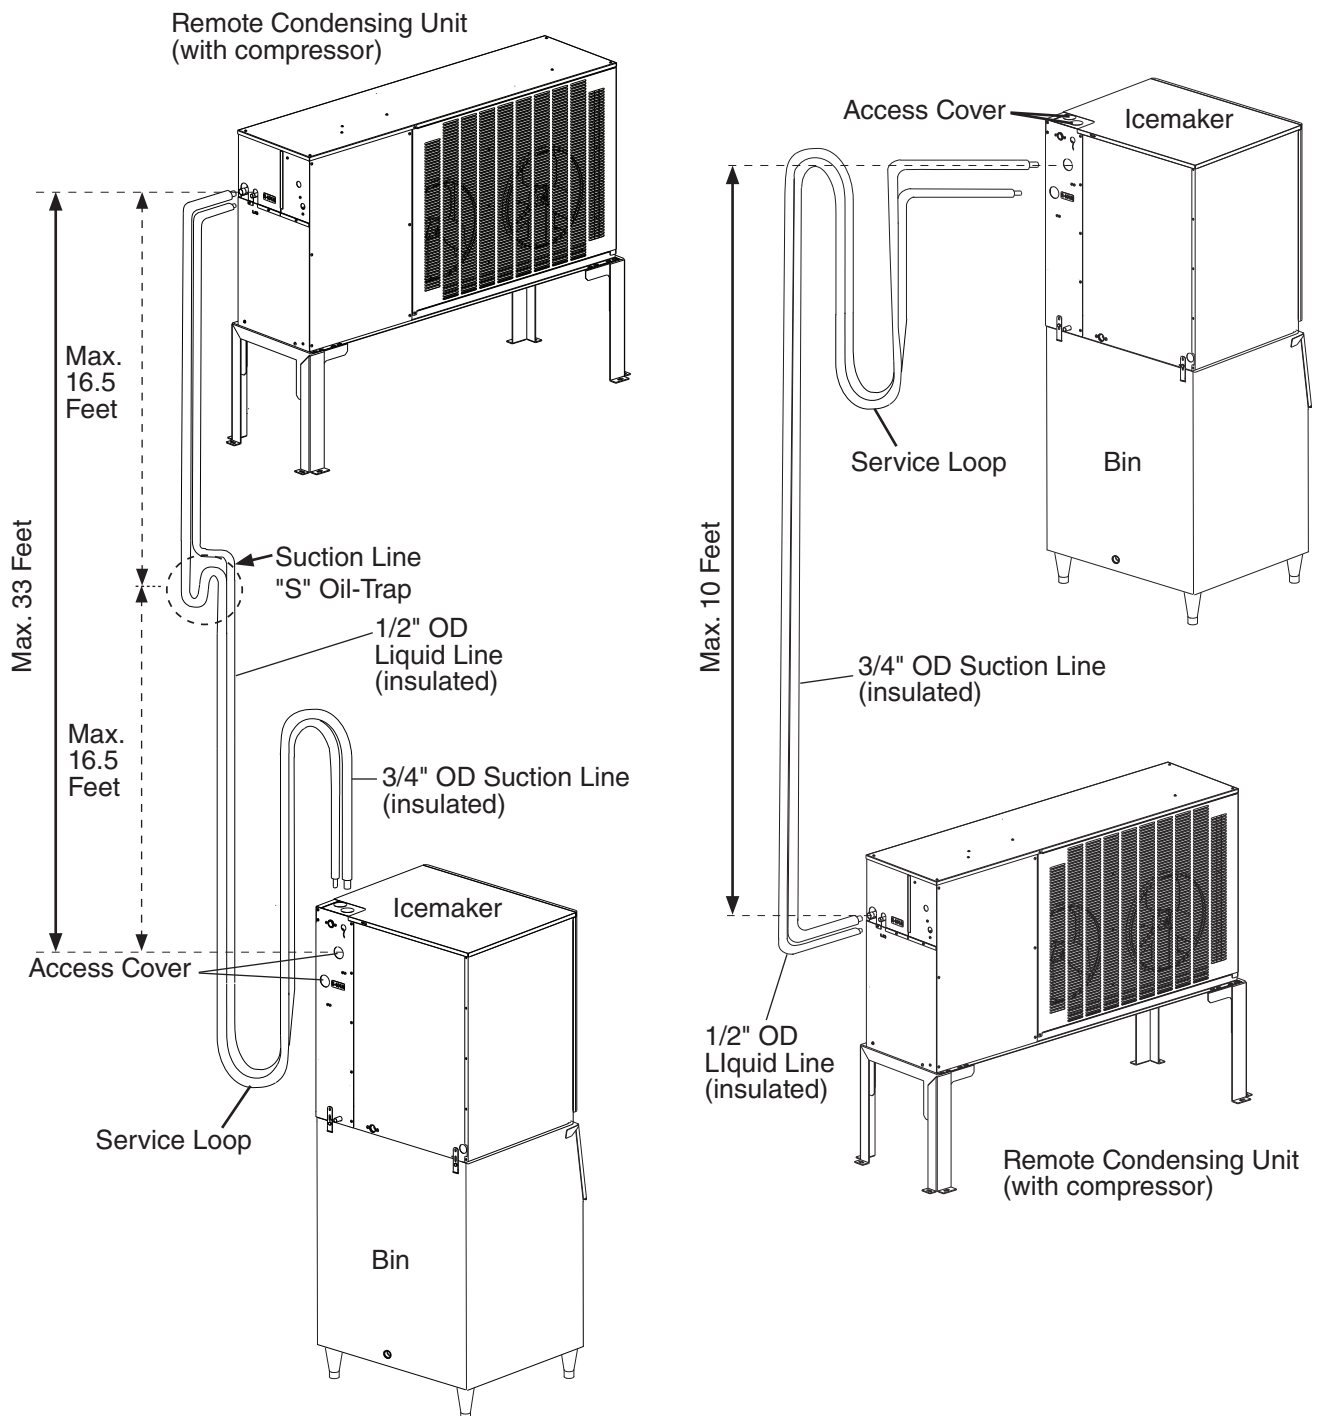

Fig. 14
- The maximum vertical distance between the remote condensing unit and icemaker is 33 feet above or 10 feet below the icemaker. These distances are measured fitting to fitting. See Fig. 14. **NOTICE! Do not exceed maximum vertical distance.**
- 1) Route the factory line set or appropriate size copper tubing. When field fabricating, insulate the copper tubes separately. Leave a service loop behind the icemaker to allow the icemaker to be pulled out for service. See Fig. 14. Note: The service loop is not considered an oil trap.
- 3) Choose the icemaker/line set configuration (top access or rear access). Use elbows as necessary. When using the top access holes, move the access covers to the rear access holes. See Fig. 14.